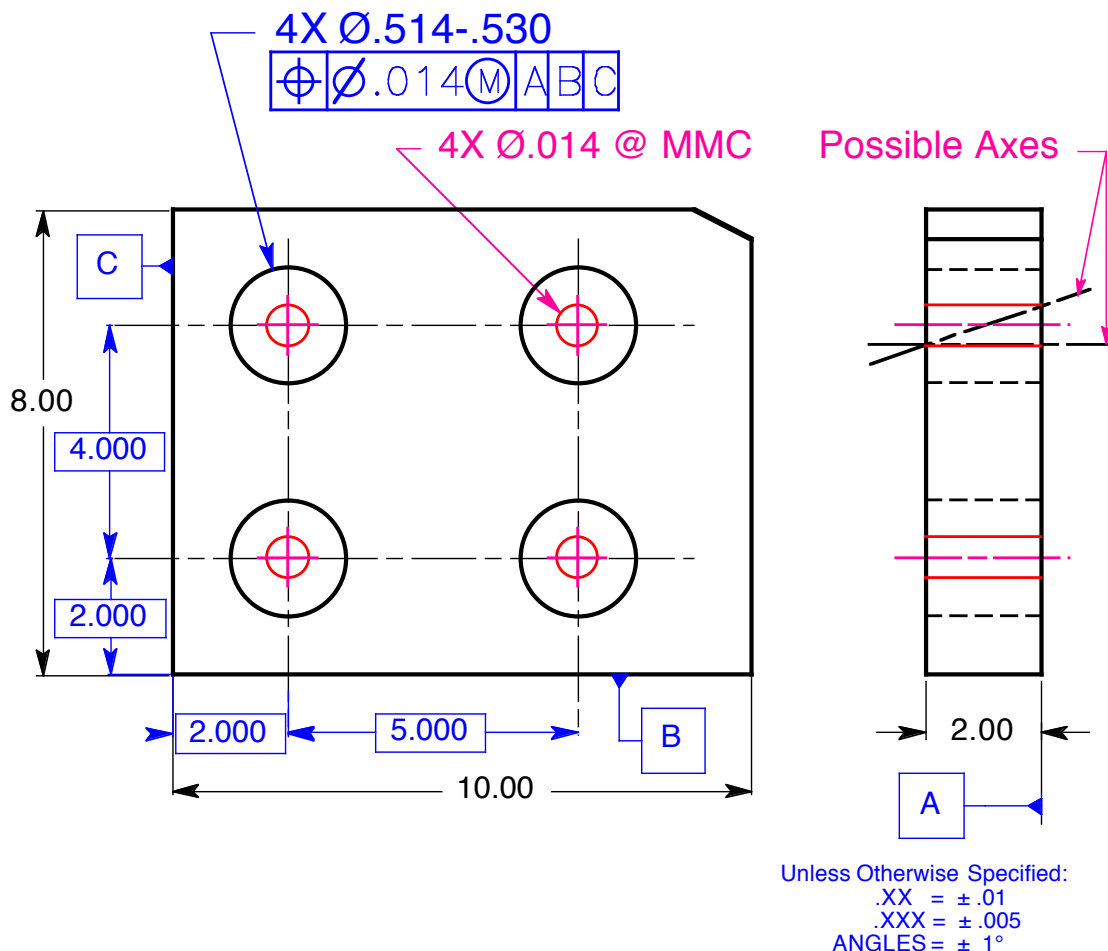

Figure 7-3 Axes are controlled with cylindrical tolerance zones.
- The axis of a cylinder, either a hole or a pin, is controlled with a **cylindrical tolerance zone** such as those shown in Fig. 7-3. A diameter symbol precedes the tolerance in the feature control frame.